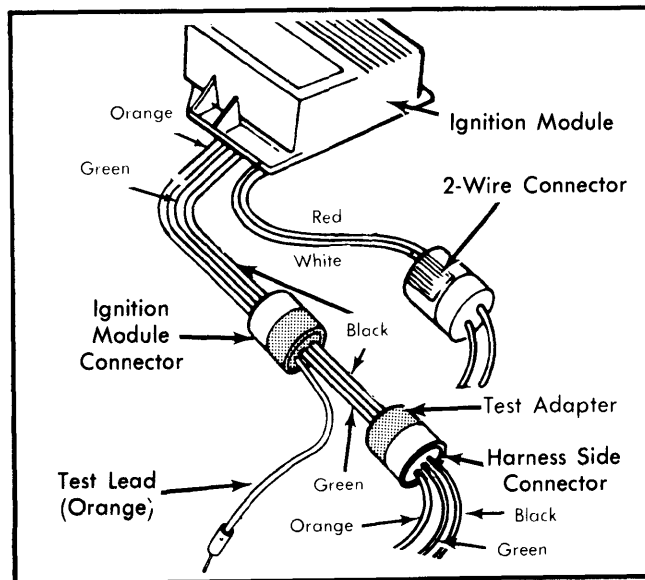

Fig. 6 Installation of Test Adapter or Jumper Wires for Performing EEC III Diagnosis
1) Disconnect ignition control module's 3-pin connector (Black, Orange and Green wires). Install diagnostic test adapter (T79P-12127-A) between 3-pin module and harness connectors. See Fig. 6.